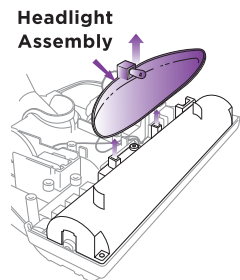

Fig. 21
- 4 Carefully lift up the headlight assembly (Fig. 21)